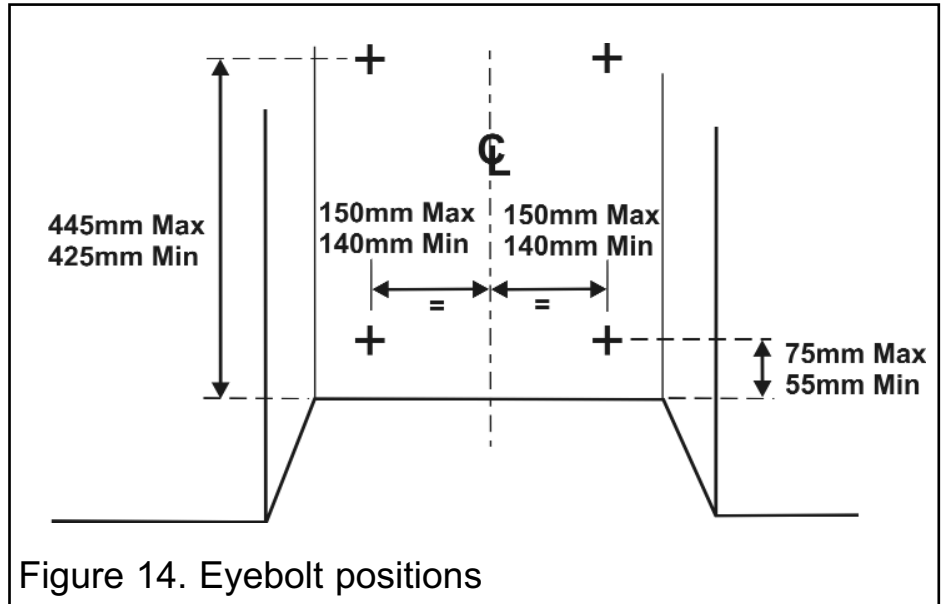

Figure 14. Eyebolt positions
2. Drill four holes in the rear wall of the fireplace for the wall plugs. The holes should be drilled within the range of positions shown in figure 14 using a suitably sized masonry drill bit for the wall plugs supplied. The holes should be equidistant each side of the centre line of the fireplace to ensure that the appliance finishes centrally in the opening when tension is applied to the cables.